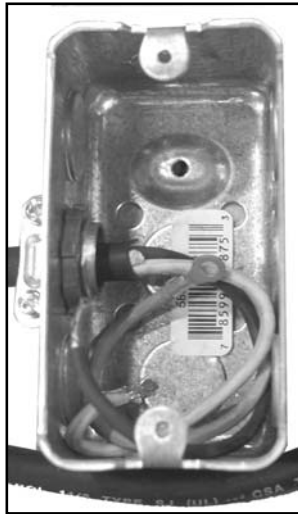

Figure 5
5. 120V/60Hz/1Ph Electrical Supply should be ran into the 120V Electrical Box by a qualified electrician in accordance with local electrical codes. **Figure 5**.